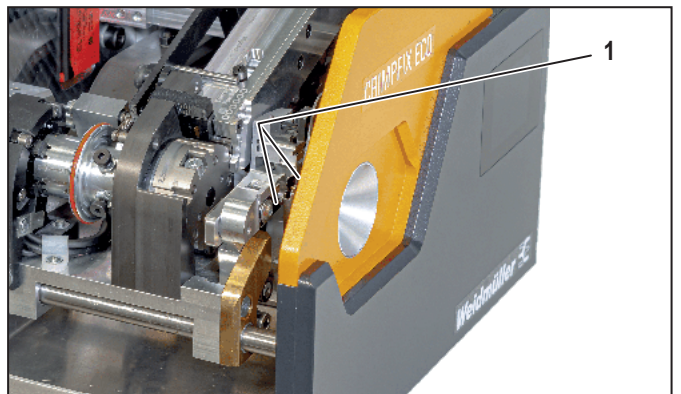

Figure 7.3 Wire stripper unit
- ▶ Clean the stripping blade with a brush and a soft cloth, see Figure 7.3, 1.